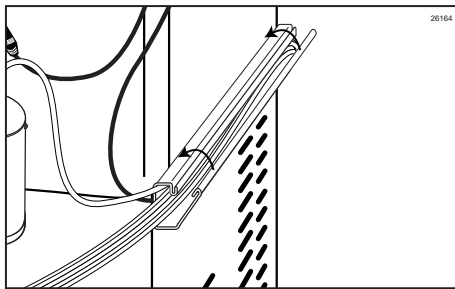

Figure 146
- Close the Casing, and press all along the connection to secure. (See Figure 146.)